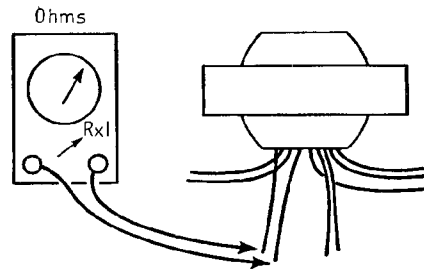

FIG. 8-8.—Resistance of each winding.
2. Read the resistance of each winding, as shown in Fig. 8-8.